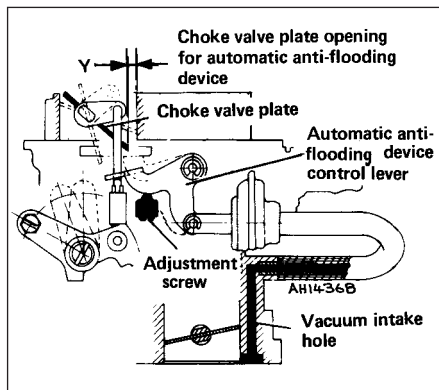

Fig. 3.27 Anti-flooding device (automatic) adjustment diagram
10 Pull the choke control fully out and hold the control lever, on the anti-flooding device, depressed. There should be a gap (Y) (Fig. 3.27) between the edge of the choke valve plate and the carburettor wall of between 3.75 and 4.25 mm (0.15 and 0.17 in). If adjustment is required, turn the adjuster screw provided.